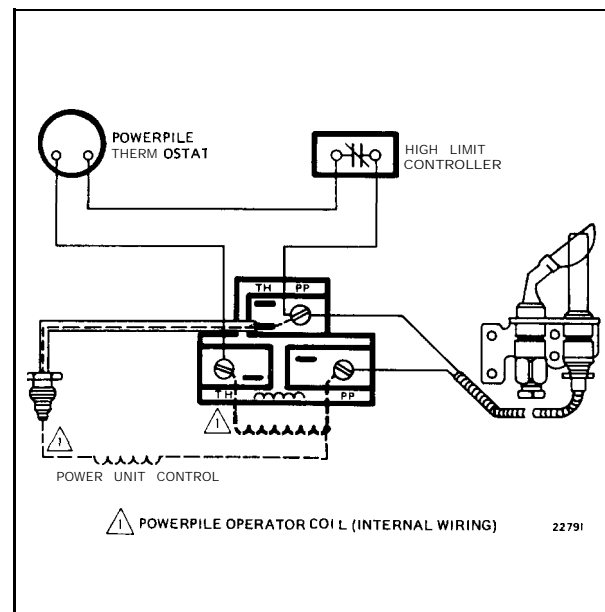

FIG. 11—TYPICAL WIRING CONNECTIONS FOR GAS CONTROL WITH THREE-TERMINAL OPERATOR.
3. Connect thermostat leads as shown in Fig. 11 or 12.